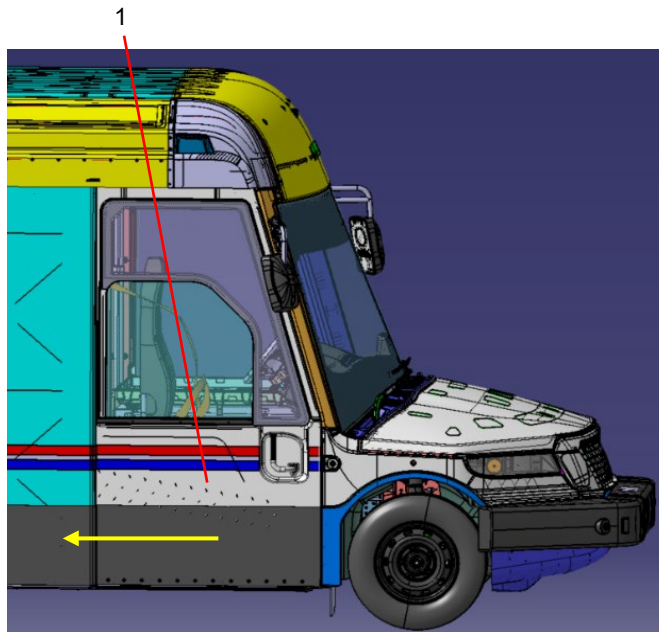

Figure 1. Impact Warning Label Removal.
- 3) Position curbside door (Figure 1, Item 1) in the “Open” position.